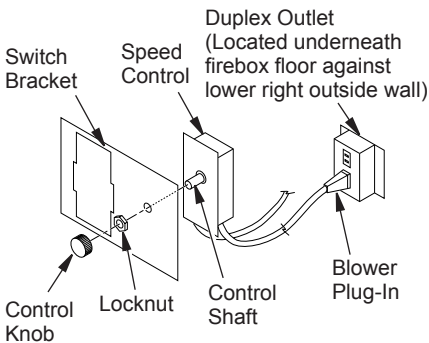

Figure 27 - Attaching Speed Control to Firebox
5. Mount speed control box to switch bracket by placing plastic control shaft forward through opening in switch bracket (see Figure 27).
5. Mount speed control box against mounting plate provided in lower fireplace cavity by placing plastic control shaft forward through round hole (see Figure 27, page 18).
6. While supporting speed control, secure control shaft with lock nut by pushing and turning lock nut with pliers clockwise until it is tight against mounting plate. Place control knob provided on shaft (see Figure 27, page 18).